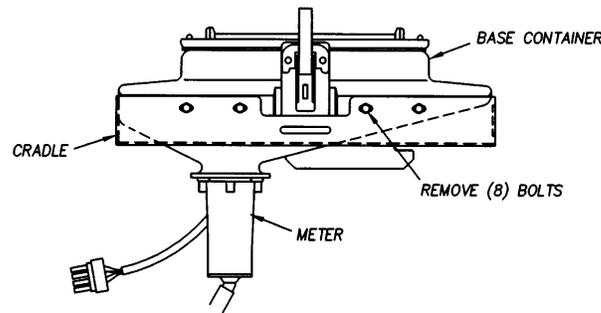

Figure 1
5. Remove the eight bolts attaching the base container to the cradle as shown in Figure 1.